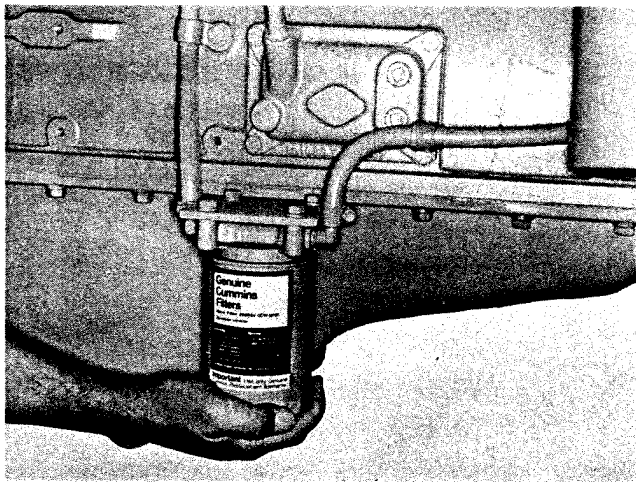

Fig. 2-18, (N11976). Spin-on type corrosion resistor
2. Unscrew element and discard. Fig. 2-18.